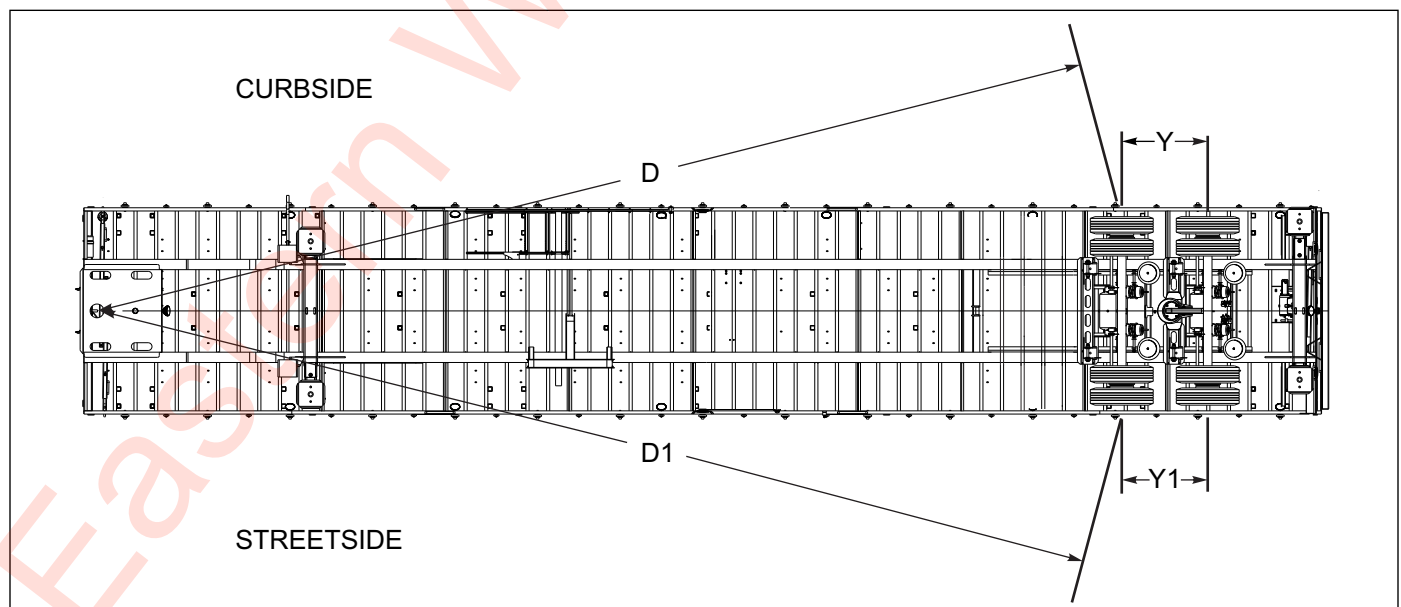

Figure 4-8: Checking Axle Alignment
4. Measure (D) from the plumb bob to the center point on one end of the axle. Record this measurement (See Figure 4-8.)